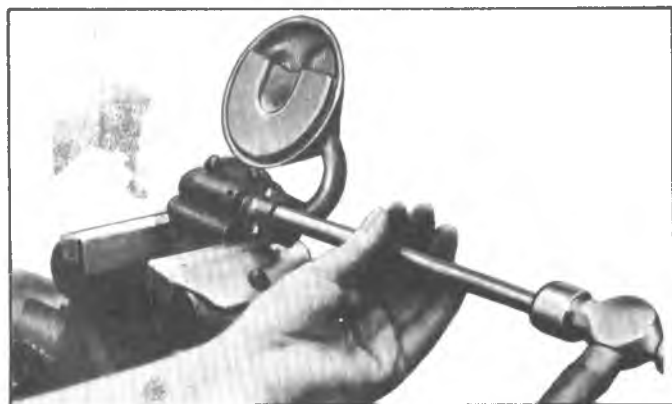
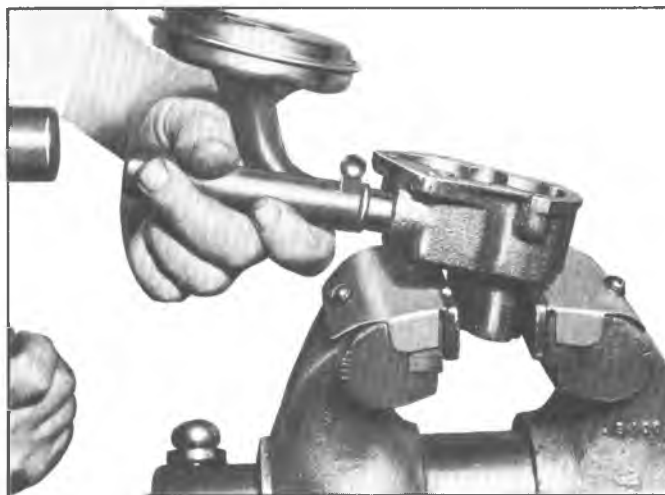

Fig. 37—Installing Screen ("Small V8")
Fig. 38—Installing Screen ("Mark IV V8")
1. If the pickup screen and pipe assembly was removed, it should be replaced with a new part. Loss of press fit condition could result in an air leak and loss of oil pressure. Mount the pump in a soft-jawed vise, apply sealer to end of pipe, and using Tool J-8369 for "Small V8" (fig. 37) or Tool J-22144 for "Mark IV V8" (fig. 38) tap the pipe in place with a plastic hammer.